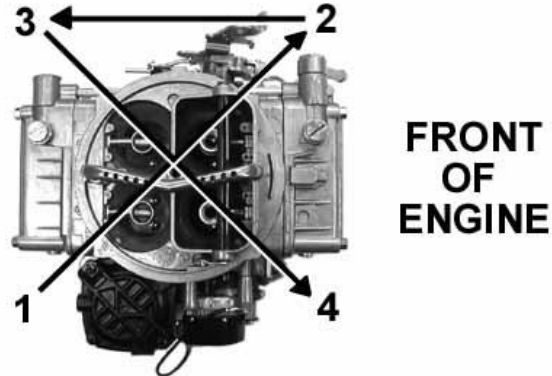

Figure 5
3. Place the carburetor on top of the flange gasket on the manifold. Install the hold down nuts and snug down progressively in a "crisscross" pattern (60-80 in./lbs.), as shown in **Figure 5**.